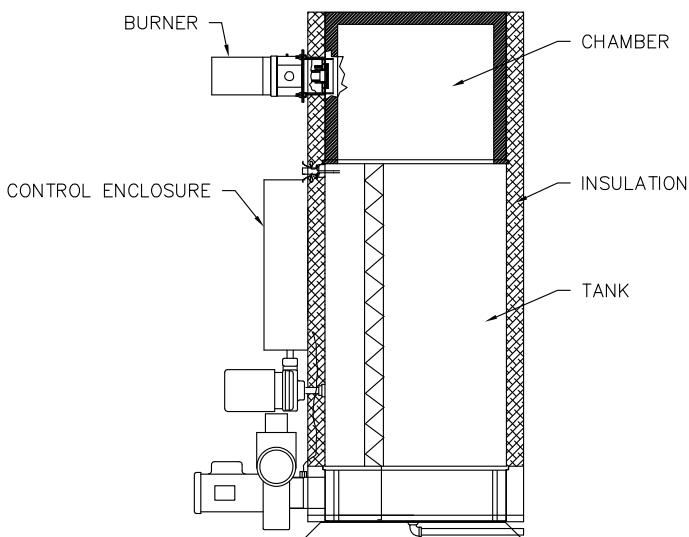

Figure 1
3. Identify jacket trim ring between chamber jacket and tank jacket. This is located approximately 21" down from top end. Refer to Figure 1 to identify Power VT main components.